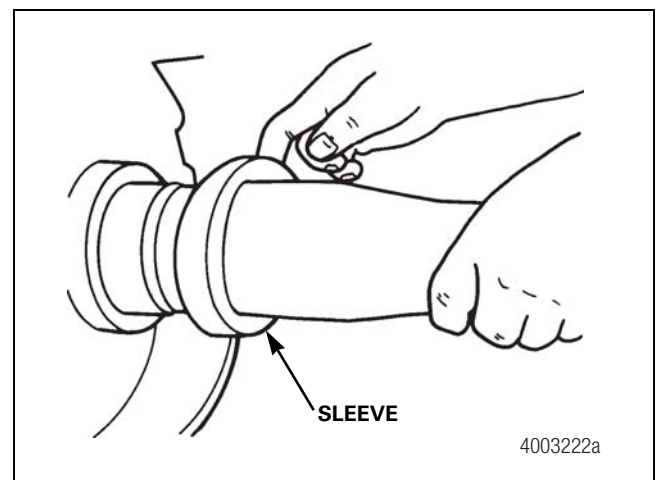
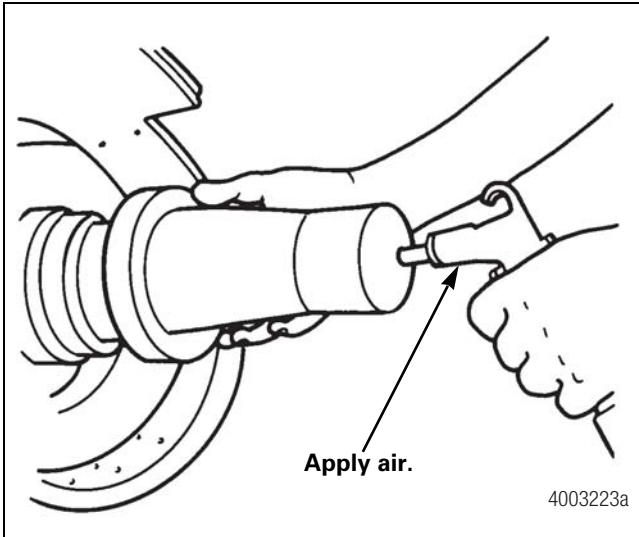

Figure 6.20
Figure 6.21
1. To remove the sleeve, pull on it and break the sleeve vacuum by either deflecting it slightly at the oil seal collar, Figure 6.20, or applying clean dry air into the slit on the end of the sleeve. Figure 6.21.